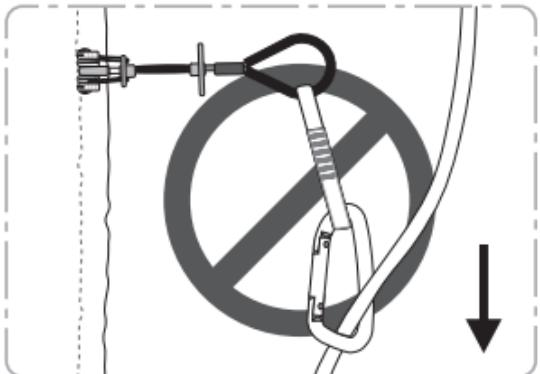

**Figure 3**
- Align the Basic Cam with the expected loading force (**see figure 3**).